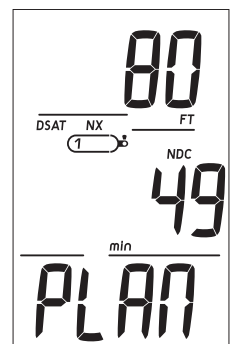

Fig. 9 - PDPS
**PDPS**, information includes (Fig. 9):